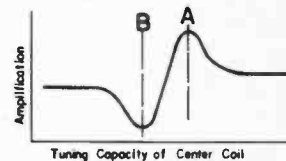

Figure 11
As an example, in a particular triple-tuned output transformer where the plate and diode leads ran close together, it was found that in attempting to align the transformer, the middle circuit was effective as long as either the input circuit or the output circuit was out of tune, but as soon as both input and output circuits were aligned, the center circuit had a very peculiar action. If the gain of the transformer is plotted against the middle capacity of the middle circuit, a curve similar to Fig. 11 was obtained. From this it is seen that there is one adjustment (A) that produces an increase in the overall amplification of the transformer. At this point the center circuit is contributing to the selectivity of the transformer. At another point (B) the amplification through the center circuit opposes the capacity coupling from the input to the output winding and results in a considerable decrease in amplification. At all other settings of its tuning condenser, the center circuit is so far out of resonance that it has no effect upon the gain of the transformer, which for all practical considerations, may be assumed to be a double-tuned capacity-coupled transformer. When the capacity between the high-potential input and output leads was reduced to a very low value by keeping the leads in opposite corners of the shield can, the transformer behaved as a triple-tuned transformer should, with all three circuits effective.